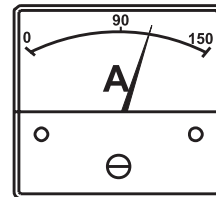

Figure 56. Ammeter (Load)
11. Observe the generator's ammeter (Figure 56) and verify it reads the anticipated amount of current with respect to the load. The ammeter will only display a current reading if a load is in use.